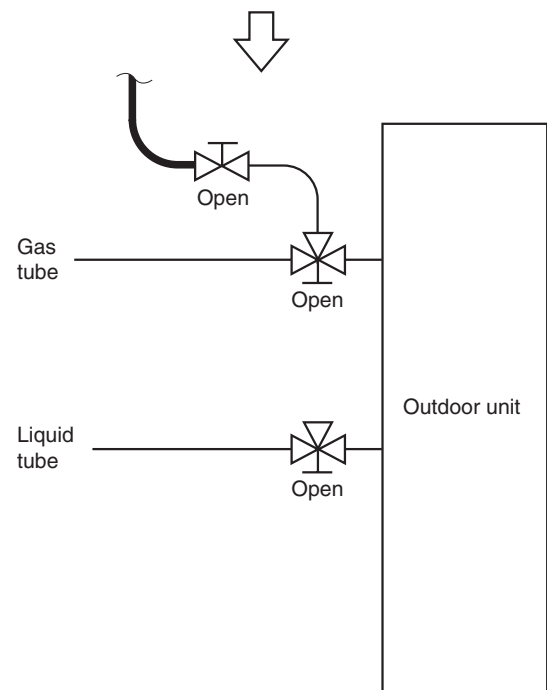

Fig. 1-31
- If the additional refrigerant charge amount cannot be charged at once, charge the remaining refrigerant in liquid form by using the gas tube service valve with the system in Cooling mode at the time of test run. (Fig. 1-31)